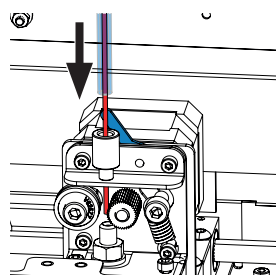

Fig. 26
- ⇒ Push the filament through the top opening of the extruder until the filament is between the two guide wheels (Fig. 26).